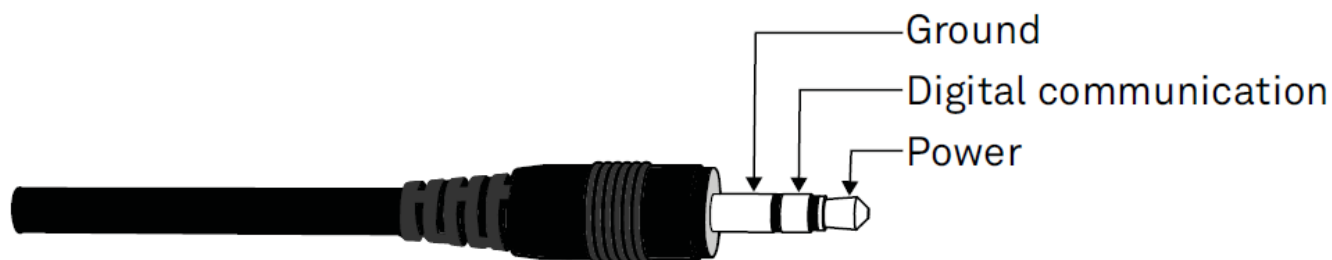

Figure 2 3.5-mm stereo plug connector wiring
3. Attach the mounting bracket either to a horizontal arm (Figure 2) or vertical post using the included U-bolts.
Apogee net radiometers are preconfigured by METER and work seamlessly with METER ZENTRA series data loggers. The sensors come with a 3.5-mm stereo plug connector (Figure 2) to facilitate easy connection with the data loggers. Apogee sensors come standard with a 5-m cable.